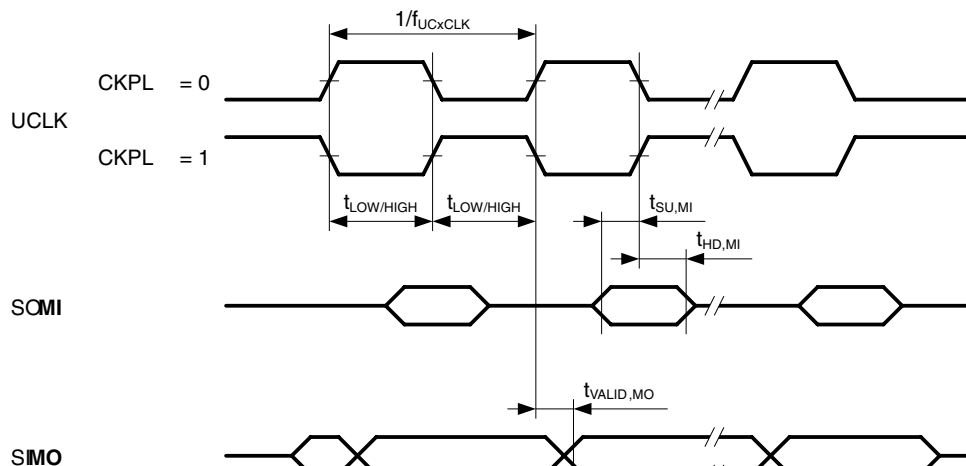
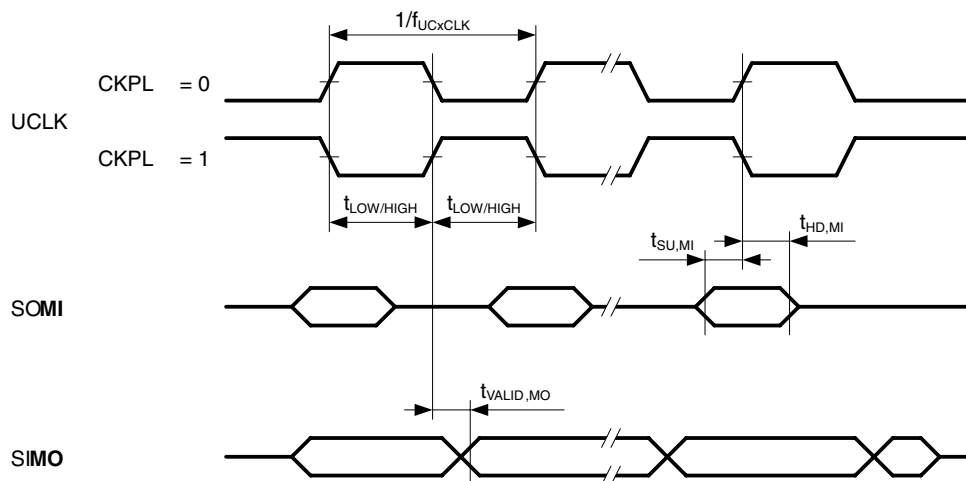

Figure 18. SPI Master Mode, CKPH = 0
Figure 19. SPI Master Mode, CKPH = 1
**USCI (SPI Master Mode, see Figure 18 and Figure 19)**